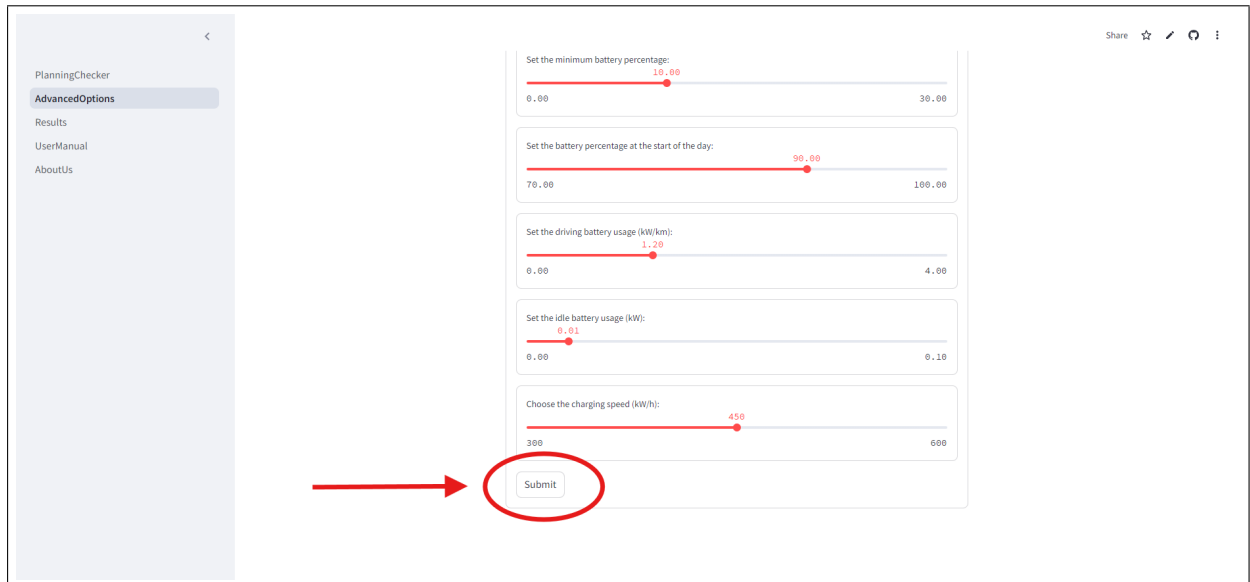

Figure 3: *The AdvancedOptions screen with the submit button highlighted.*
3. Once the settings are set correctly, click ‘Submit’ to apply the settings and start the checking process (see figure 3).